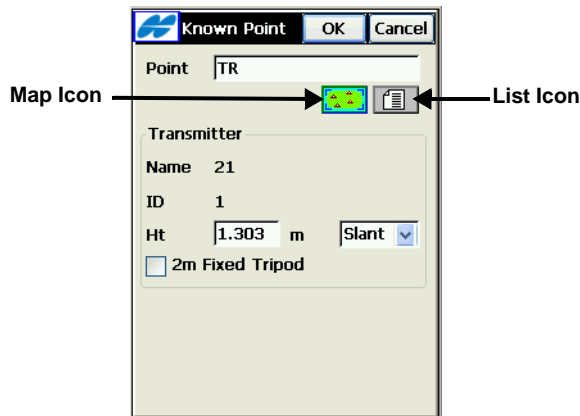

Figure A-3. Transmitter Over Known Point
4. If *Known Trans Horz Pos* was enabled, the **Known Point** screen displays (Figure A-3 on page A-3). Select the point over which the transmitter was setup using the **map** or **list** icons and tap **OK**.